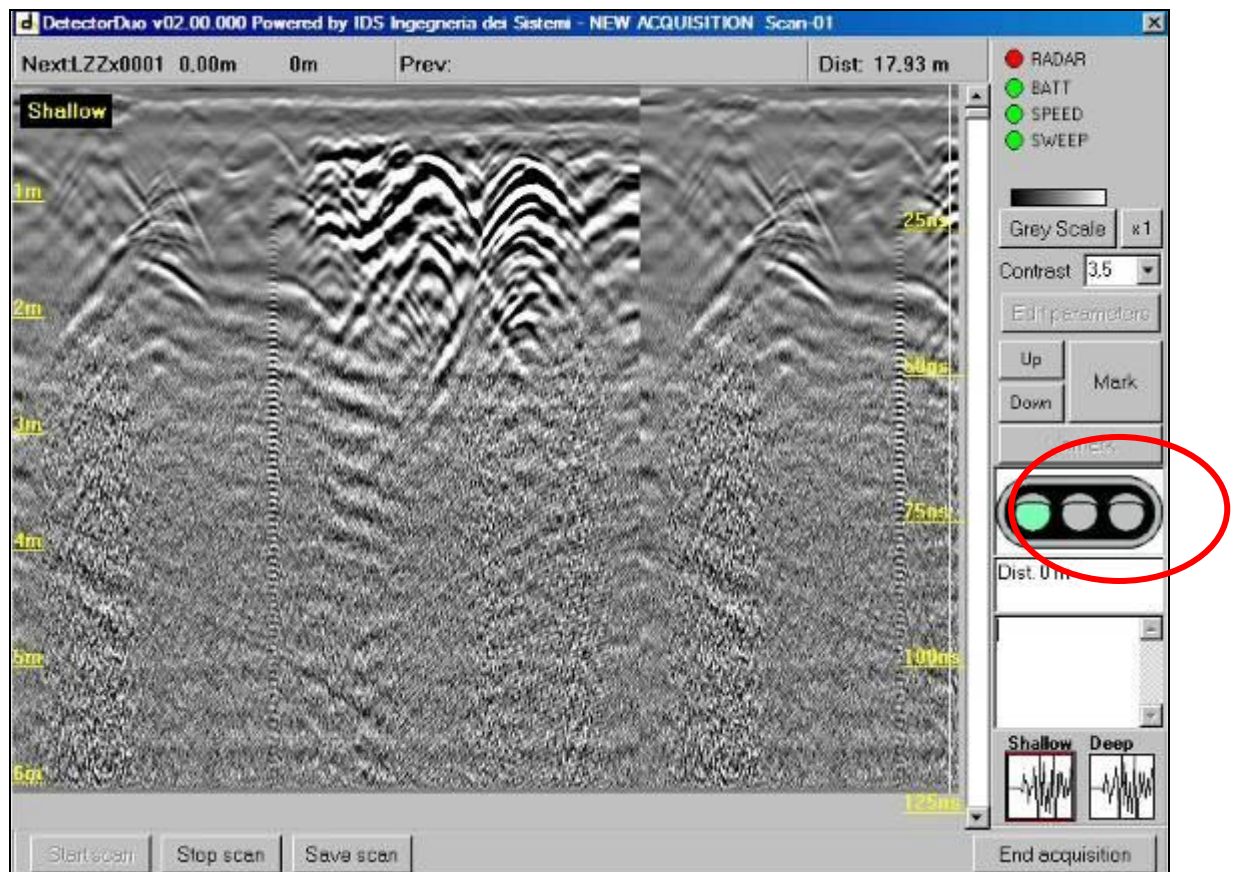

Fig. 5.14 – Radar map during the acquisition phase
Press the  button and start the acquisition by pushing the trolley. The window shown in Fig. 5.14 appears, displaying the icon
editing the number in the side textbox, as shown in Fig. 5.14.
- There are three boxes in a grey bar above the acquired radar maps (Fig. 5.14) (see below) these show the following information: